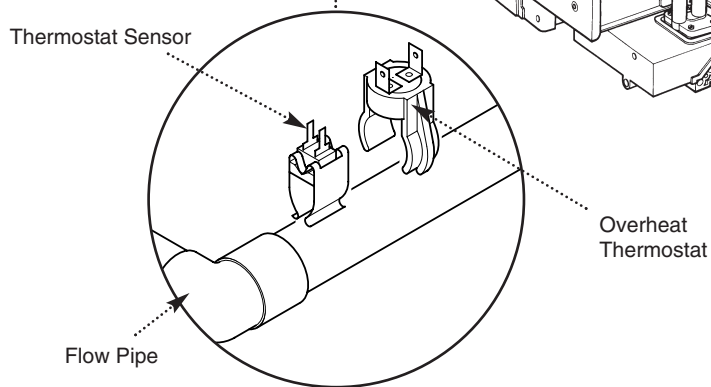

Fig. 76
3. The top flow connection incorporates the boiler thermostat and overheat thermostat (Fig. 76).